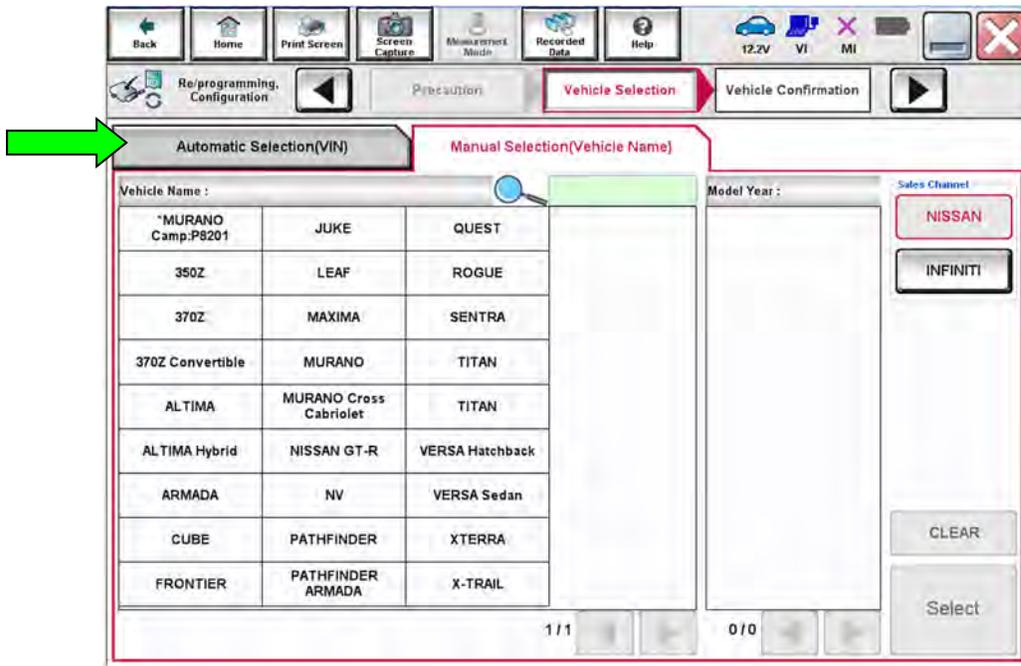

Figure 7
16. If the screen in Figure 7 displays, select **Automatic Selection(VIN)**.
- If the screen in Figure 7 does not display, skip to step 17.